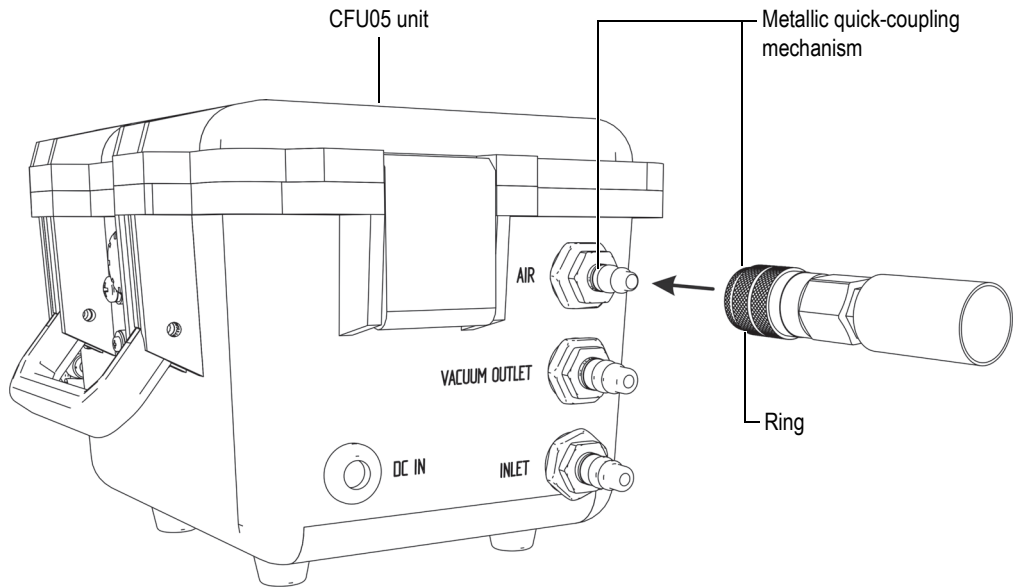

Figure 2-13 Compressed AIR connection
2. Push the female metallic quick coupling in the plain male AIR connector until it snaps into place; in this position, the connector is locked (see Figure 2-13 on page 38).
1. Pull back the ring of the coupling to release the hose's male connector (see Figure 2-13 on page 38).